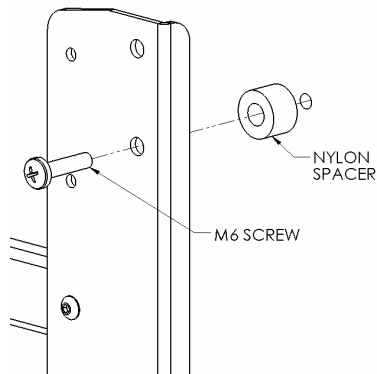
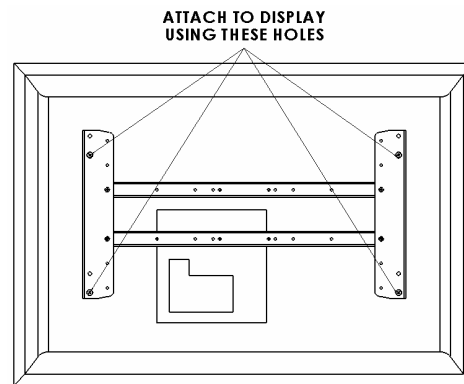

Figure 10
Figure 11
6. **Bracket Installation:** Place nylon spacers over mounting holes of screen and attach brackets to back of display using the M6 screws (see Figure 10 & Figure 11). Do not over tighten screws.